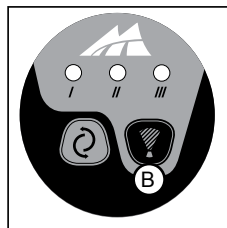

FIGURE 2
4. Press the Steam Level Selector to control the level of steam low (I), medium (II) or high (III) (See figure 2, B). Steam can be used without rotary action.